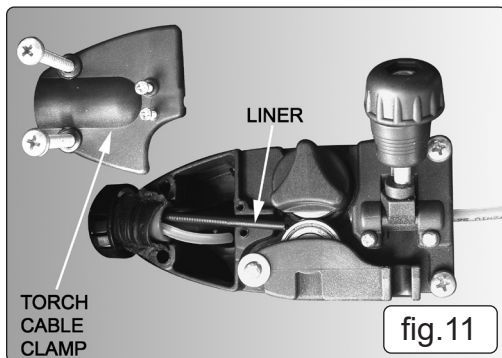
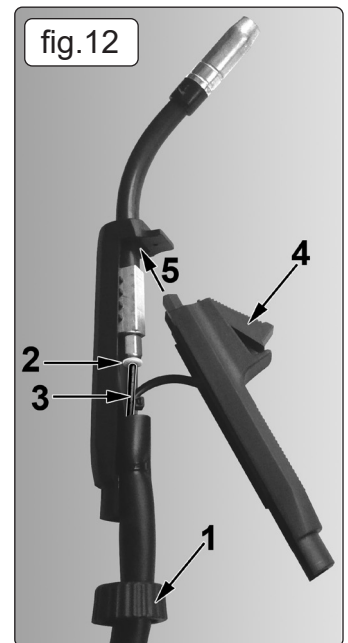

fig.11
fig.12
7.6.1. A worn or damaged wire liner will seriously affect the performance of the welder and should be immediately replaced. First wind the wire back onto the spool and secure it. Remove the four screws securing the torch cable clamp to the wire feed unit (fig.11) and take off the clamp.
7.6.3. Take hold of the back end of the moulding which contains the switch and pull it outwards and downwards to release it from the other moulding as shown in fig.12.
7.6.5. Insert the new liner into the torch cable and secure it in the wire drive unit by replacing the torch cable clamp. See fig.11. Insert the other end of the liner through the locking ring and fully into the brass nut in the torch head, see 2 in fig.12.